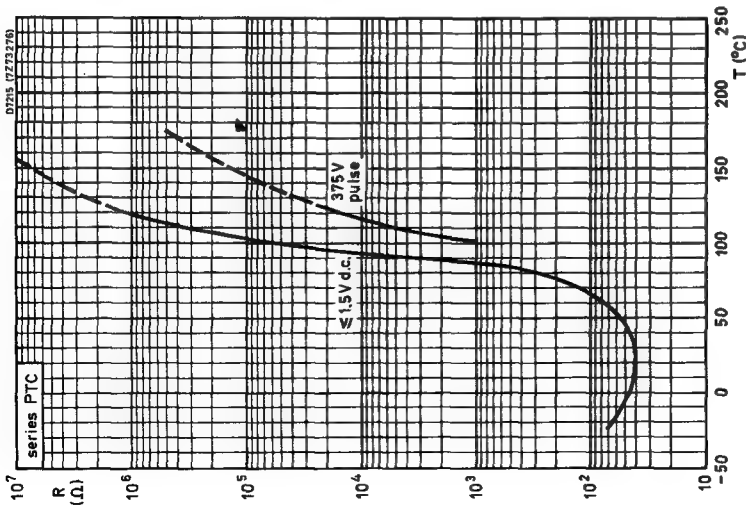

Fig. 3
VDR's do not have a polar effect, i.e., when the voltage polarity is reversed, the current changes in direction, but not in magnitude. Equations (1) and (2) are only valid for absolute values of voltage and current; this may be of importance in a.c. calculations. To avoid lengthy calculations, equation (1) has been converted into a nomogram (fig. 3), which gives the corresponding values of voltage and current for any given silicone carbide VDR. When a straight line is drawn between the voltage and current points for a VDR, and produced to intersect the  $\beta$ -line, all other straight lines radiating from that point will give values of voltage and current that apply to the given VDR, e.g., for a VDR having